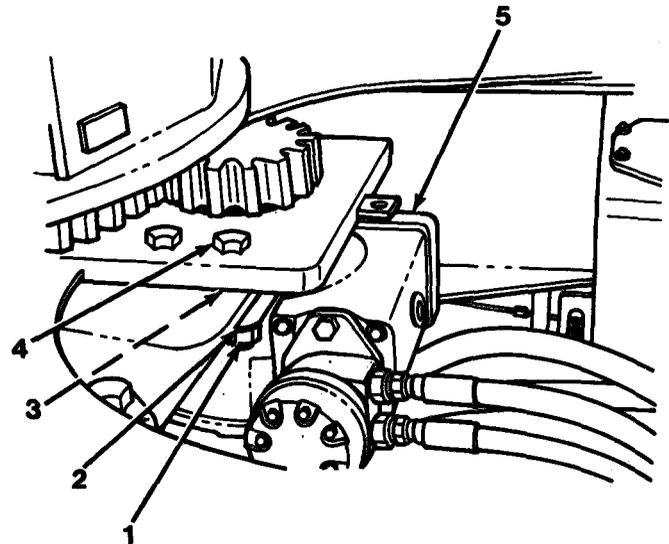

Figure 15-1
4. Wing adequate hoist and sling, support swing gear box (5, Figure 15-1).